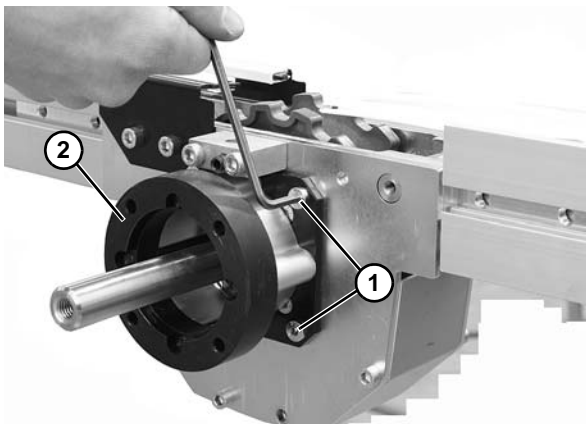

Figure 144
7. Remove four hex head cap screws (**Figure 144, item 1**) and remove drive motor mounting plate (**Figure 144, item 2**).